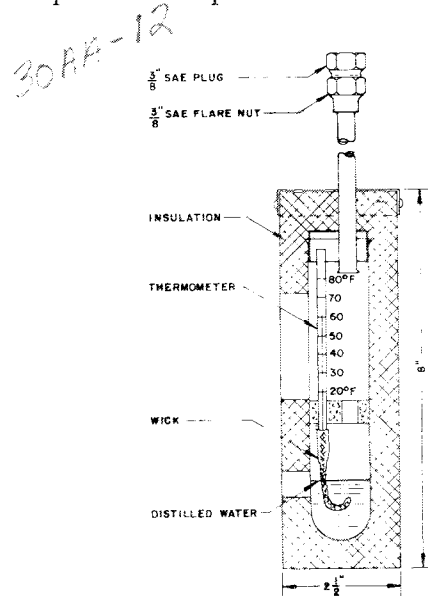

Fig. 24 - Vacuum Indicator
3. Obtain a vacuum indicator similar to that shown in Fig. 24 (available thru local Carrier Distributor).